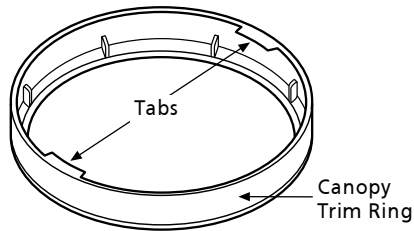

Figure 6a - Canopy Trim Ring
1. To easily install the canopy trim ring, locate the two tabs on the canopy trim ring. (See Figure 6a.)